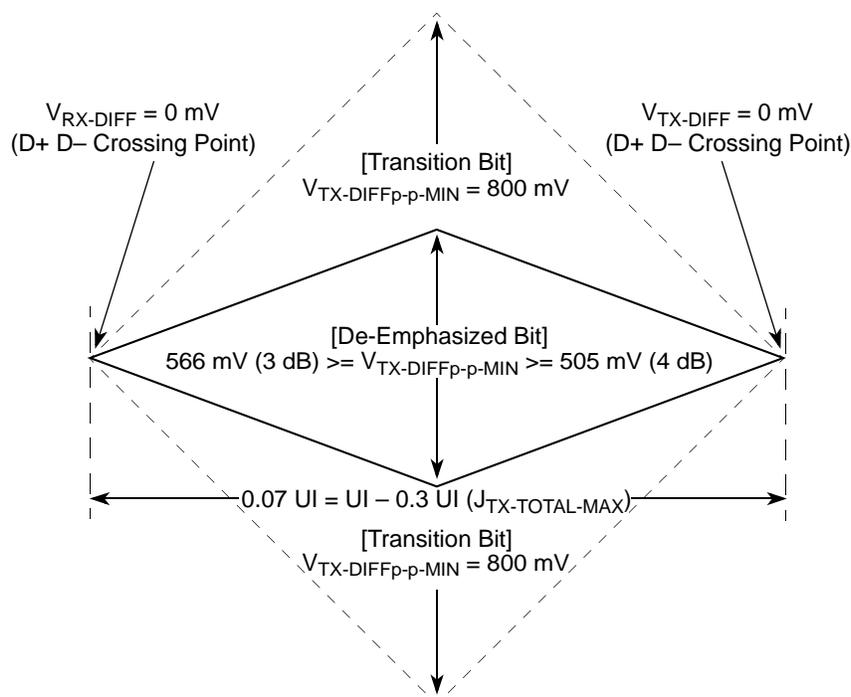
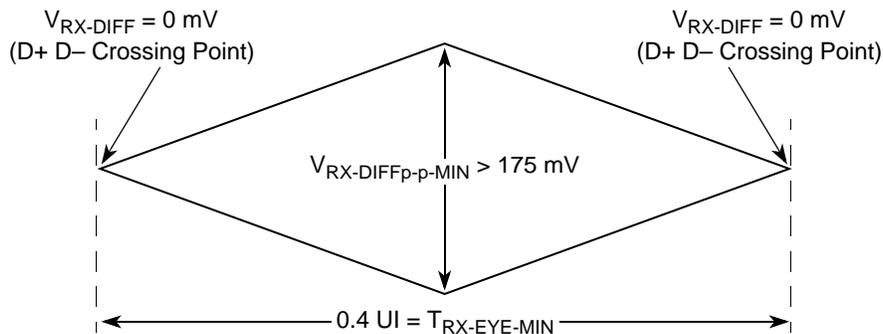
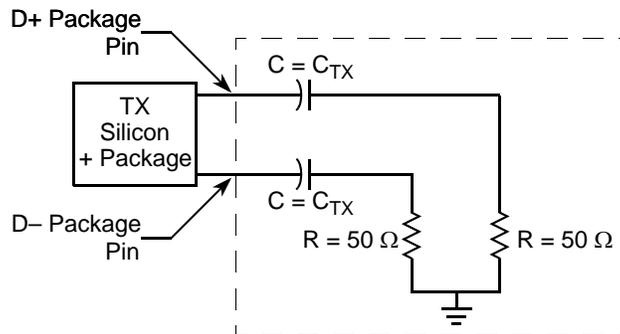

Figure 48. Minimum Transmitter Timing and Voltage Output Compliance Specifications
Figure 49. Minimum Receiver Eye Timing and Voltage Compliance Specification
Figure 50. Compliance Test/Measurement Load
- Specified at the measurement point into a timing and voltage compliance test load as shown in Figure 50 and measured over any 250 consecutive TX UIs. (Also see the transmitter compliance eye diagram shown in Figure 48.)
- The transmitter input impedance shall result in a differential return loss greater than or equal to 12 dB and a common mode return loss greater than or equal to 6 dB over a frequency range of 50 MHz to 1.25 GHz. This input impedance requirement applies to all valid input levels. The reference impedance for return loss measurements is 50 Ω to ground for both the D+ and D– line (that is, as measured by a vector network analyzer with 50- Ω probes—see Figure 50). Note that the series capacitors C_{TX} is optional for the return loss measurement.
- Measured between 20%–80% at transmitter package pins into a test load as shown in Figure 50 for both $V_{\text{TX-D+}}$ and $V_{\text{TX-D-}}$.
The TX eye diagram in Figure 48 is specified using the passive compliance/test measurement load (see Figure 50) in place of any real PCI Express interconnect +RX component.
2. Specified at the measurement point and measured over any 250 consecutive UIs. The test load in Figure 50 must be used as the RX device when taking measurements (also see the receiver compliance eye diagram shown in Figure 49). If the clocks to the RX and TX are not derived from the same reference clock, the TX UI recovered from 3500 consecutive UI must be used as a reference for the eye diagram.
4. The receiver input impedance shall result in a differential return loss greater than or equal to 15 dB with the D+ line biased to 300 mV and the D– line biased to –300 mV and a common mode return loss greater than or equal to 6 dB (no bias required) over a frequency range of 50 MHz to 1.25 GHz. This input impedance requirement applies to all valid input levels. The reference impedance for return loss measurements for is 50 Ω to ground for both the D+ and D– line (that is, as measured by a vector network analyzer with 50- Ω probes—see Figure 50). Note: that the series capacitors CTX is optional for the return loss measurement.
The RX eye diagram in Figure 49 is specified using the passive compliance/test measurement load (see Figure 50) in place of any real PCI Express RX component.
Note: In general, the minimum receiver eye diagram measured with the compliance/test measurement load (see Figure 50) is larger than the minimum receiver eye diagram measured over a range of systems at the input receiver of any real PCI Express component. The degraded eye diagram at the input receiver is due to traces internal to the package as well as silicon parasitic characteristics which cause the real PCI Express component to vary in impedance from the compliance/test measurement load. The input receiver eye diagram is implementation specific and is not specified. RX component designer must provide additional margin to adequately compensate for the degraded minimum receiver eye diagram (shown in Figure 49) expected at the input receiver based on some adequate combination of system simulations and the return loss measured looking into the RX package and silicon. The RX eye diagram must be aligned in time using the jitter median to locate the center of the eye diagram.
The reference impedance for return loss measurements is 50. to ground for both the D+ and D- line (that is, as measured by a vector network analyzer with 50-Ω probes—see Figure 50). Note that the series capacitors, CTX, are optional for the return loss measurement.
The AC timing and voltage parameters must be verified at the measurement point, as specified within 0.2 inches of the package pins, into a test/measurement load shown in Figure 50.